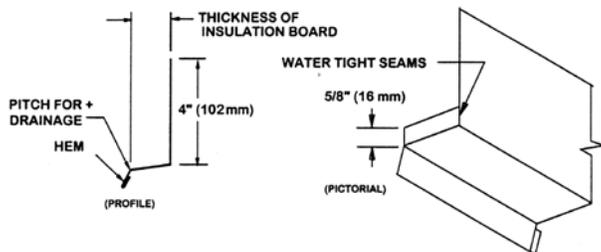

Fig. 22.10
9. **Metal Flashing Profile:** The flashing above the window should be fabricated in the profile shown. Flashing material should be corrosion resistant and compatible with other construction materials (Fig 22.10). The length of the cap flashing must be at least as long as the top of the window and may be up to 1/2 in. (13mm) longer at each end when installed (not mandatory).